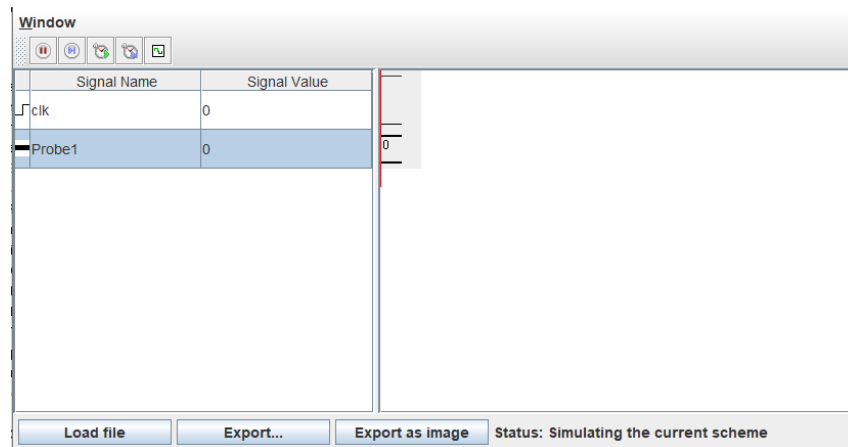

Figure 7.10: Chronogram Starting
10. Click *Start Chronogram* and the screen illustrated in Figure 7.10 pops up.